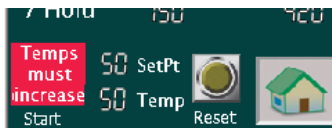

FIG 25. Temperatures must increase
In a similar alert type mode, the four (4) entered temperatures must increase in value (i.e. the temperature of “Temp 2” has to be greater than “Temp 1”). If a user tries to enter a lower temperature than any of the previous, an alert message will replace the “Start” button [Fig. 25].